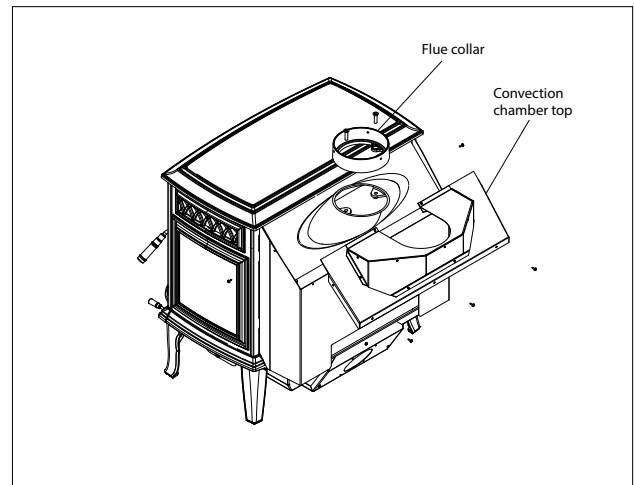

Figure 18.1
1. Remove flue collar (#3 Phillips) and convection chamber top (#2 Phillips) (**Figure 18.1**).